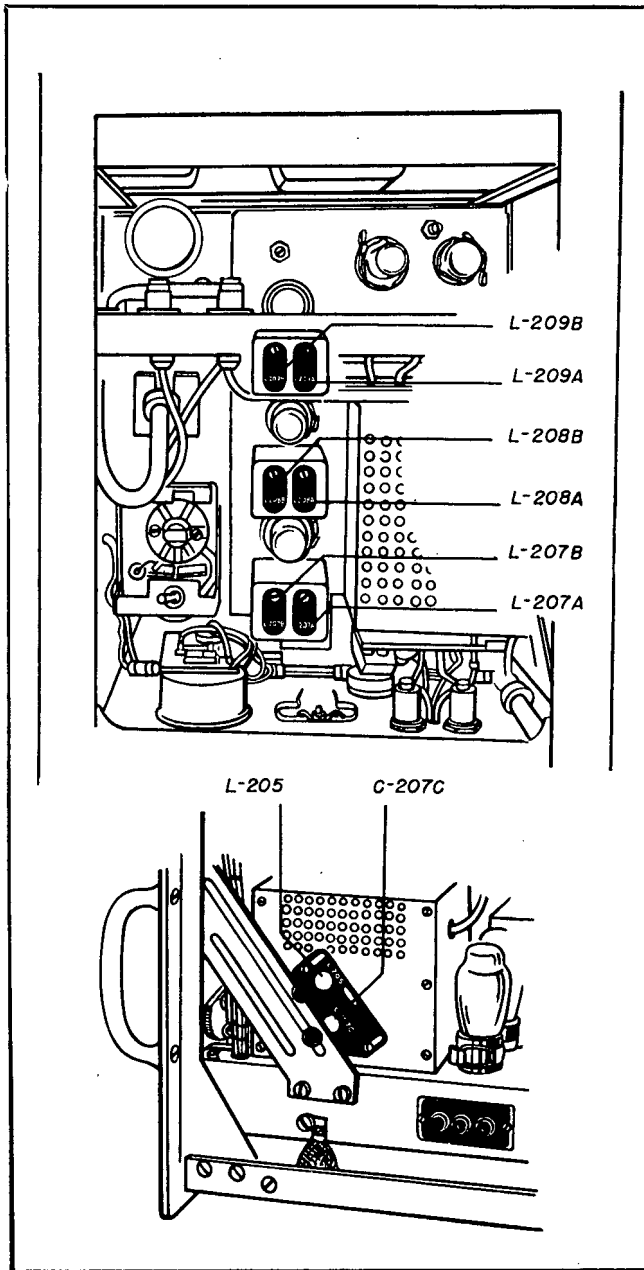

Figure 7-104. Monitor Receiver, Alignment Controls
(1) Remove the Monitor Receiver from the Transceiver and place it on a work bench. Connect a-c power to terminals 102 and 103 on terminal board E-203. Use the shortest length of cord possible and locate it behind the Monitor Receiver. Place the signal generator on one side of the Receiver and the output meter or oscilloscope on the other side to minimize the coupling between the test leads. Ground the test equipment to the chassis of the Monitor Receiver. If the output meter is used, connect the resistor to terminal 41 on terminal board E-202. Then connect the meter to the other end of the resistor and to terminal 01 on terminal board E-202. If the output meter is not used connect the oscilloscope to the output terminals.
(2) Connect a signal generator, adjusted to 15 mc/s to terminal 2 on transformer T-201. This is the plate terminal of the transformer. An alternate method is to disconnect the grid lead between V-203 and inductor L-206, insert a 100,000-ohm resistor in series with the grid and the inductor and connect the signal generator to the end of the resistor nearest the grid of the tube.
(3) With power applied, advance the I.F. GAIN control to 100. Then adjust the attenuator on the signal generator until the output is one volt on the output meter or oscilloscope. Either of these instruments will have to be calibrated against a known voltage to establish this level.
(4) Adjust inductors L-211, L-210, L-209-B, L-209-A, L-208-B, L-208-A, L-207-B, and L-207-A in this order for maximum output. These adjustments are shown in Fig. 7-104. The output should be limited to three volts by adjustment of the attenuator on the signal generator during the alignment procedure. After the adjustment is completed, repeat it to insure accuracy.
(5) Connect the signal generator to connector J-201 and adjust its frequency to 225 mc/s and its output to 50,000 microvolts. Do not use modulation.
(6) Adjust the tuning adjustment of inductor L-205 to a point approximately equal to one-third of its range from the counterclockwise position.
(7) Set the F dial on the control panel of the Monitor Receiver to 800 and adjust the oscillator trimmer C-207-C for maximum output. This adjustment is shown in Fig. 7-104.
(8) Adjust the r-f trimmer C-201 for maximum output.